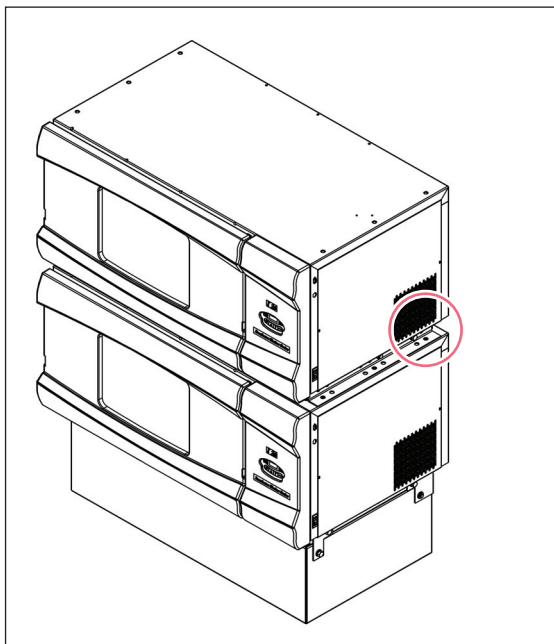

Fig. 4-10: Secure unit to stacking rails
4. Secure the bottom of the upper shaker the side stacking rails using the six $\frac{1}{2}$ -13 x 1 in screws, lock washers, and washers provided (circled in red in Fig. 4-10). Also secure the upper unit to the stop rail using three $\frac{1}{4}$ -20 x 5/8 in hex head screws, lock washers, and washers.